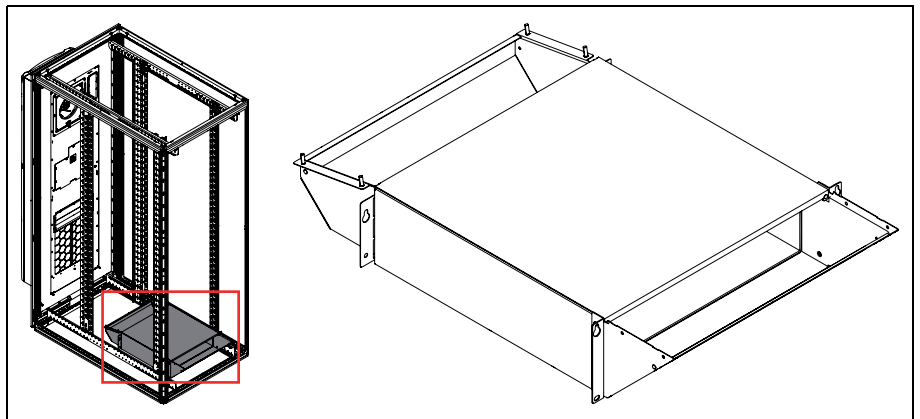

Fig. 9: Horizontal air duct part in its supplied state
- Remove the horizontal air duct part (fully retracted in its supplied state, see fig. 9) from the packaging.